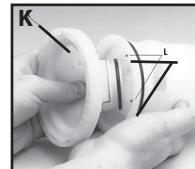

Figure 8
- When reassembling the pump housing to the pressure cylinder, be sure the square tab on the pump housing (K) is aligned in the notch. See arrows (L) on the pressure cylinder in Figure 8. Be careful not to pinch or nick the O-ring.